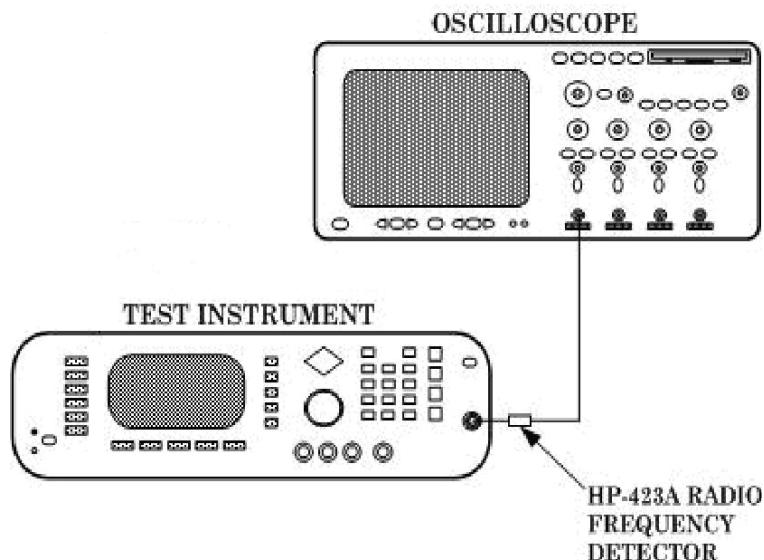

Figure 7. Pulse modulation hook-up.
- (1) Connect equipment as shown in figure 7 below.